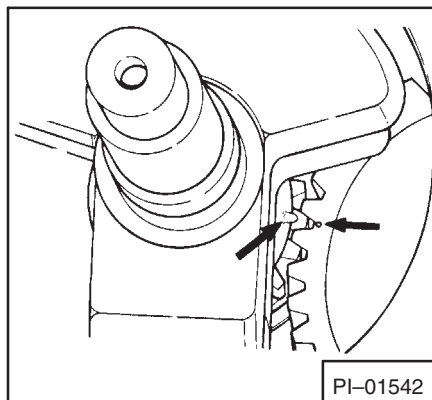

Fig. 46B Timing Marks
2. Rotate the crankshaft and align the timing marks on the crankshaft gear and the cam gear. Push the crankshaft the remainder of the way into the crankcase (Fig. 46B).